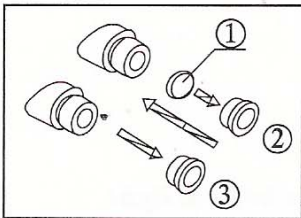

Fig. 5
- 1) Turn out and remove the mounting ring from the eyepiece. (Fig.5)
- 3) Gently twist the mounting ring with the eyepiece micrometer into the eyepiece till tighten ② securely.